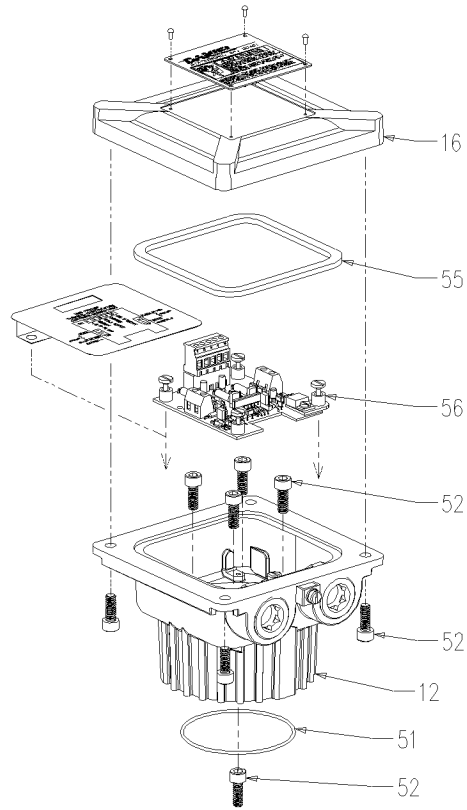
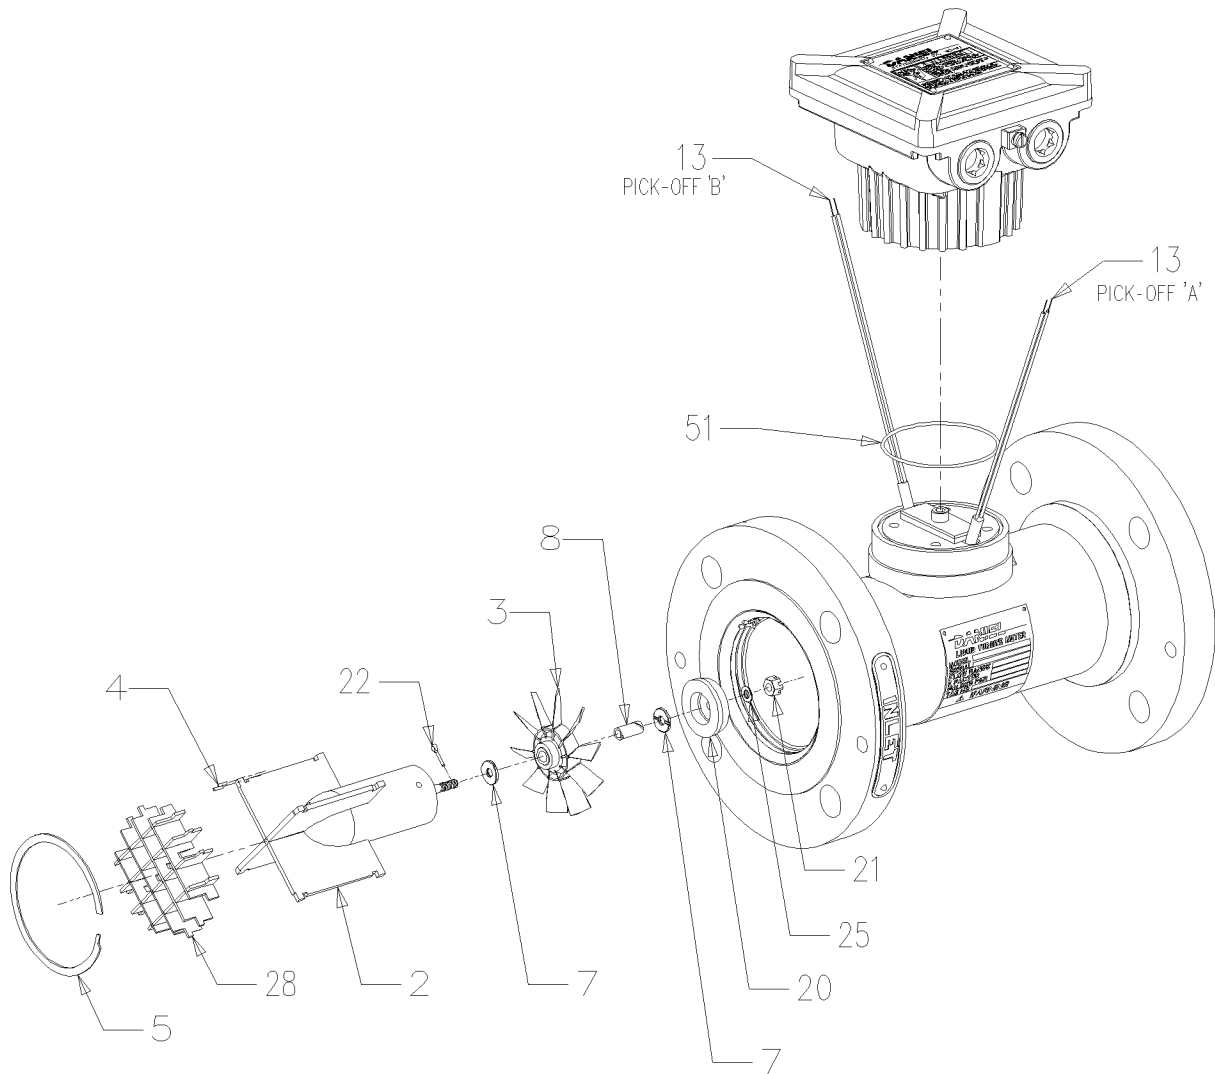

Figure 7-1. UMB Assembly - All Sizes (Reference Table 7-1)
Figure 7-2. Meter Assembly - Sizes 3" and 4" (Reference Table 7-2)
2. Disconnect conduit connections to the UMB Turbine. (Reference Figure 7-1)
- a. Remove screws (item 52) and top cover (item 16) of the UMB.
- b. Disconnect conduit connections from terminal board TB1 (assembly item 56).
B. Internal Components Sizes 3 through 8" (Reference Figure 7-2)
- b. Remove the snap ring (item 5).
- c. Remove the flow conditioning plate (item 28 if used).
- d. Holding the internal mechanism by the support fins of the inlet diffuser (item 2) carefully lift straight up until the assembly is clear of the meter body. Place the internal assembly on a clean dry surface resting on the inlet diffuser with the rotor assembly facing up.
In all cases reassembly is the reverse of disassembly. Caution must be taken at all times to protect the rotor blades from rough handling as blade position is critical to meter performance (Reference Figure 7-2).
See Figures 7-1 and 7-2.
2. Remove retaining screws (item 52) and cover (item 16) of the UMB housing assembly.
4. Loosen retaining screws of preamplifier board (item 56) and lift out.
6. Remove retaining plate (item 49, Figure 7-2) and screw, (item 52).
7. Insert second pick-off (item 13) into the pick-off cavity of the UMB and secure with retaining plate (item 49) and screw, (item 52).
Table 7-1. UMB Assembly - All Sizes (Reference Figure 7-1)
Table 7-2. Meter Assembly - Sizes 3" and 4" (Reference Figure 7-2)